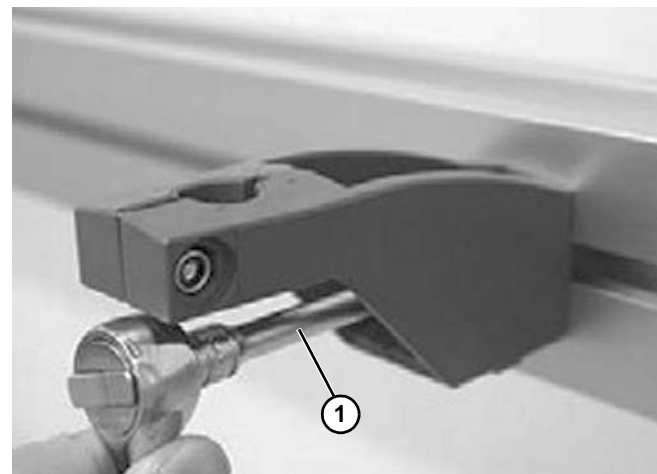

Figure 100
2. Attach the bracket onto conveyor beam and tighten with a socket wrench (Figure 100, item 1). Install upper and lower caps.